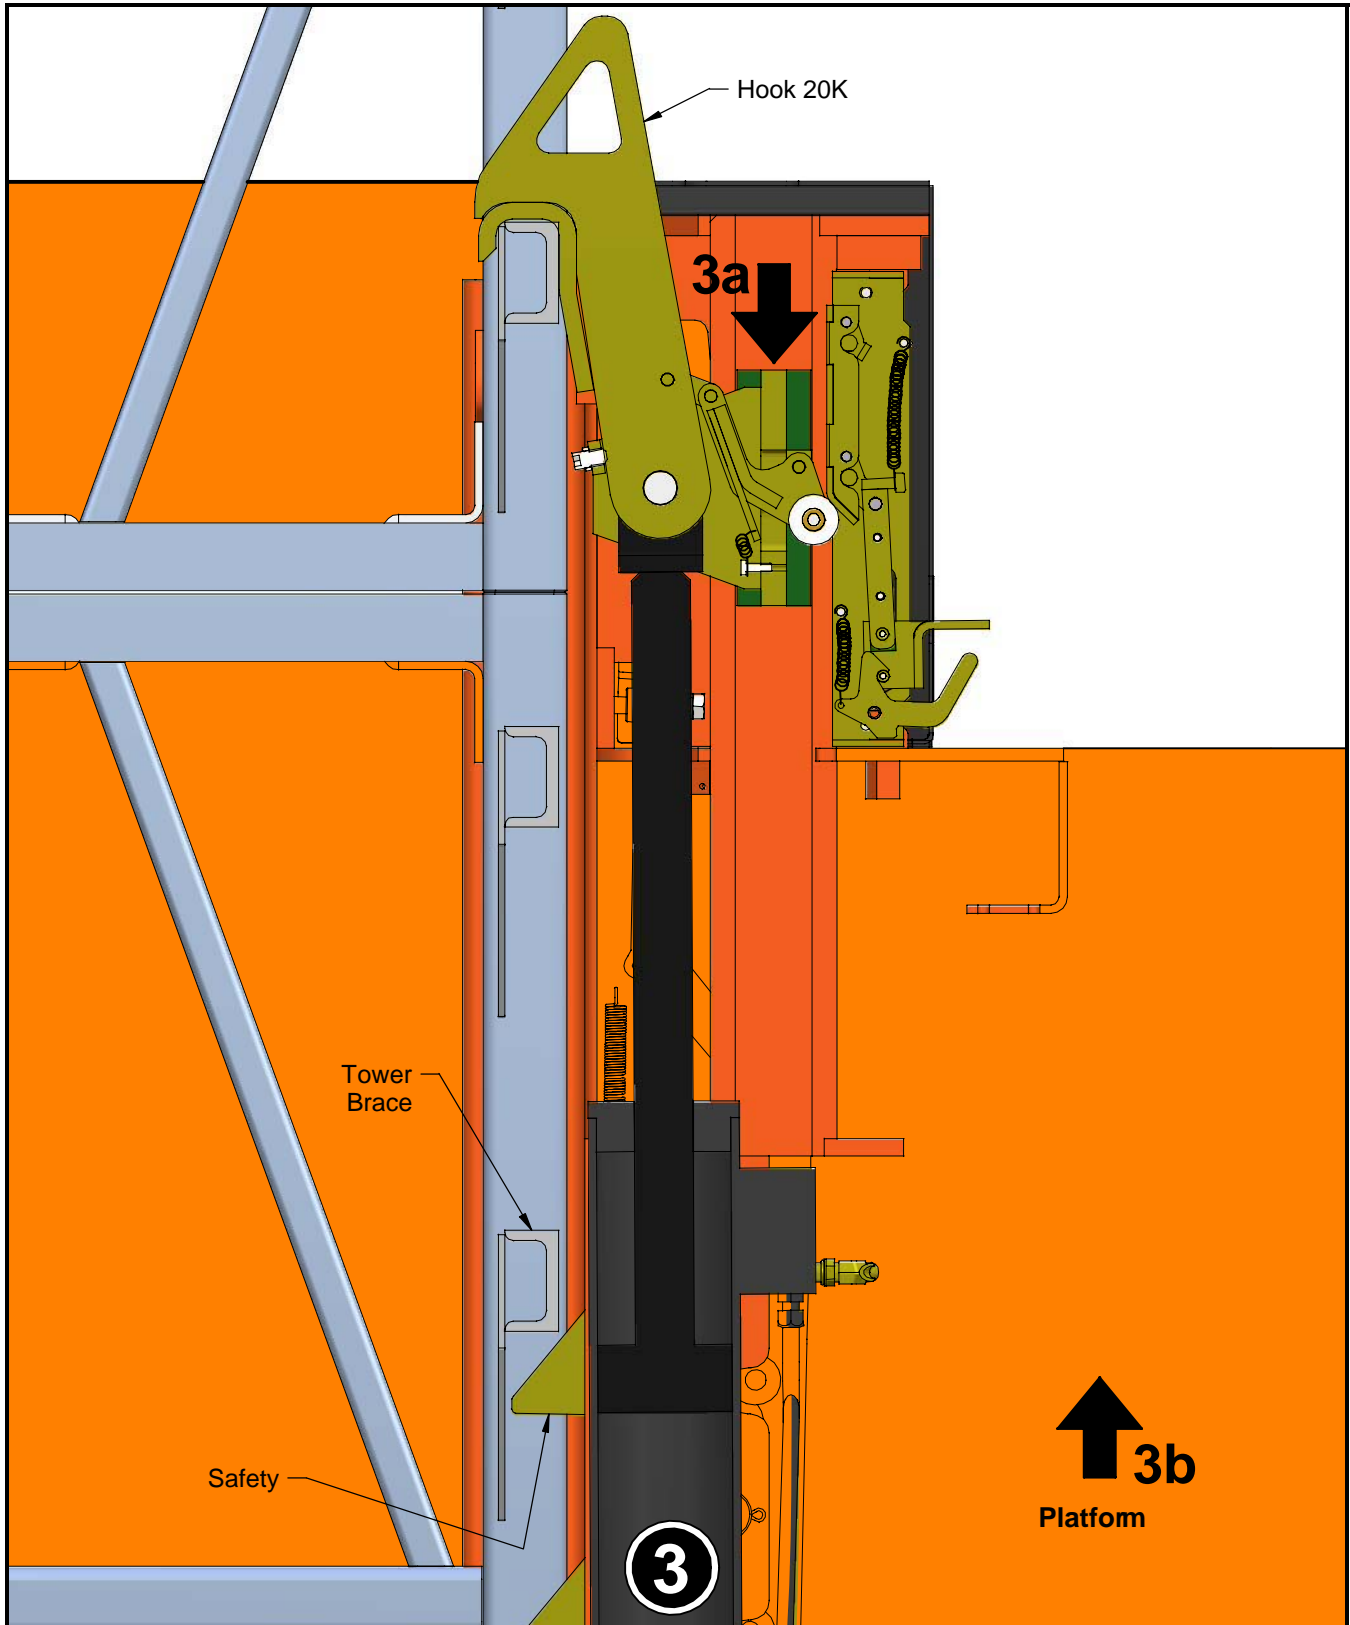

Figure A.4c
Step 3 (Raising the Platform) (see Figure A.4a, Figure A.4b and Figure A.4c)